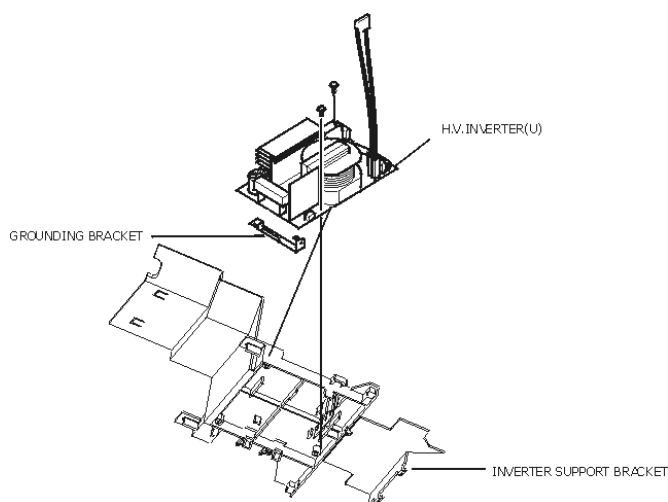

figure 7 Removal of the inverter PCB.
9. Remove the 4 screws holding the inverter circuit board to the inverter support base. Figure 7